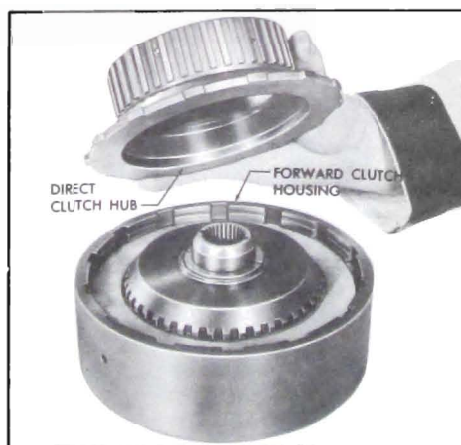

Figure 5-611
2. Remove the direct clutch hub. See Figure 5-611.